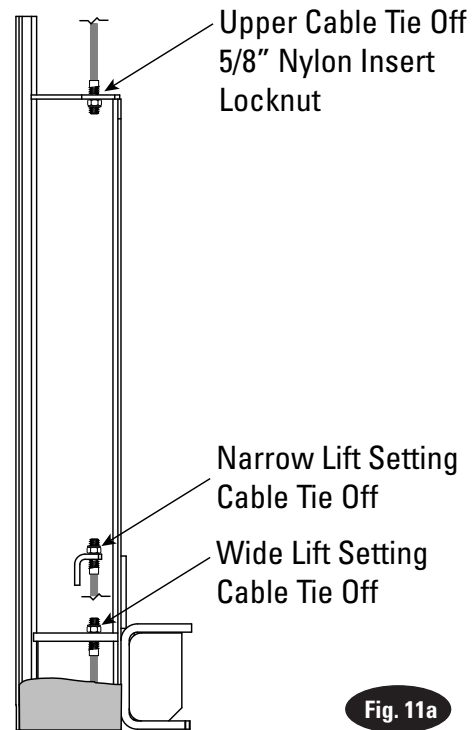

Fig. 11a
First, run a cable end up through the small hole in the lower tie-off plate, Fig. 11a.
- Pull the cable back down, Fig. 11a